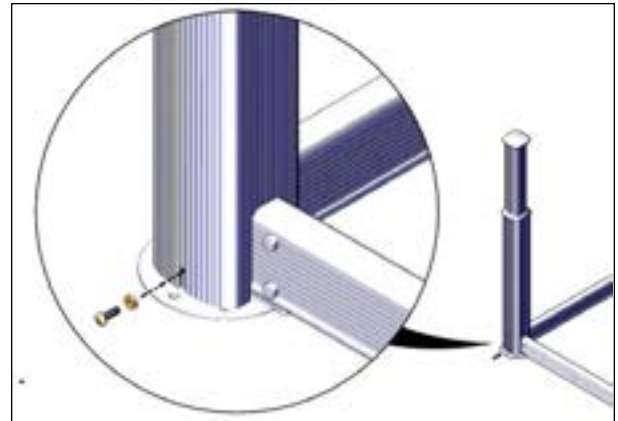

FIGURE 95: SLEEVE BOTTOM SCREW
1. Remove the lower sleeve screw. The screw is visible when facing the post see Figure 95.